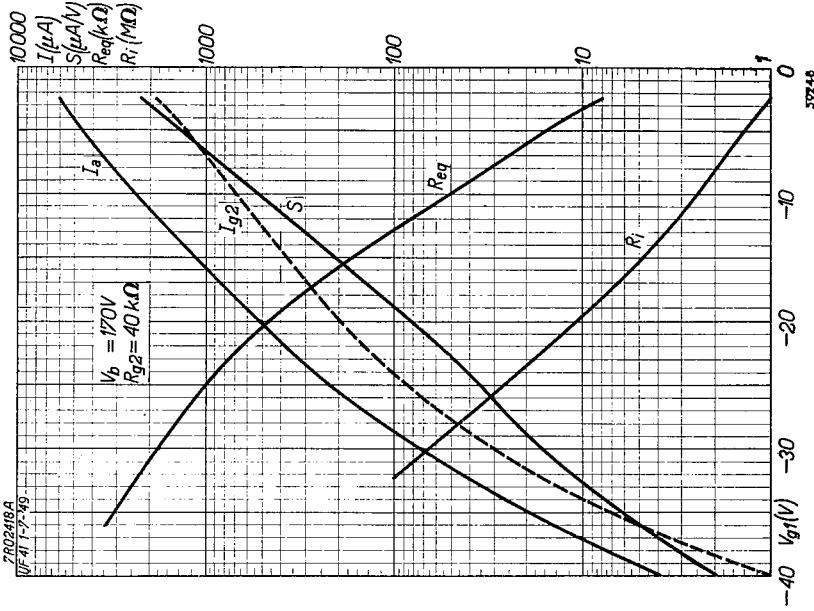
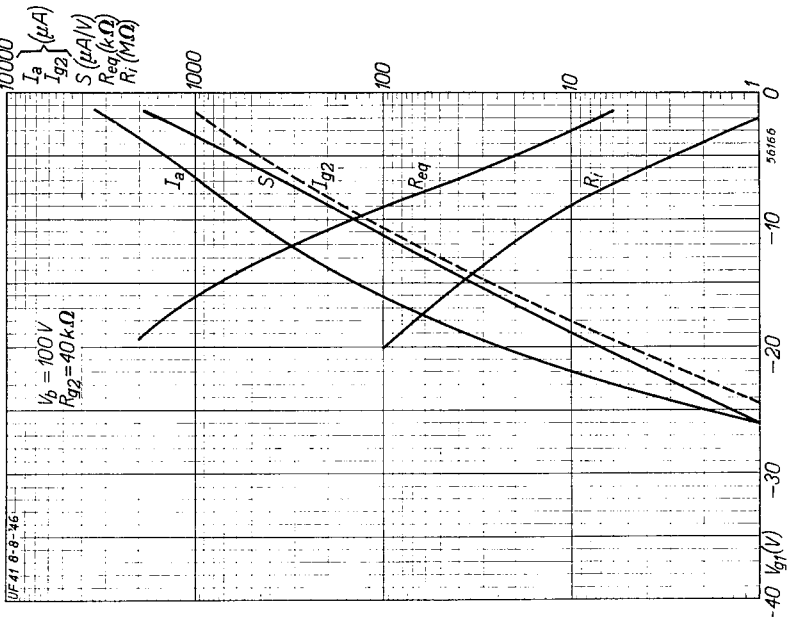

Fig. 7
Fig. 6
(see Figs. 6 and 7)
Anode current (I_a), screen grid current (I_{sg}), mutual conductance (S), internal resistance (R_i) and equivalent noise resistor ($R_{sg} = 40 k\Omega$, supply voltage $V_b = 100 V$ (Fig. 6) and $170 V$ (Fig. 7).